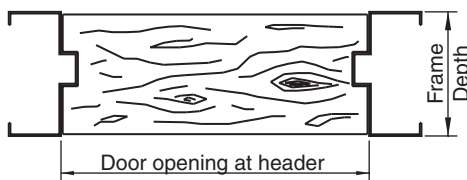

Figure 2 – Spreader
3.1 Wood Spreaders (see Figure 2)